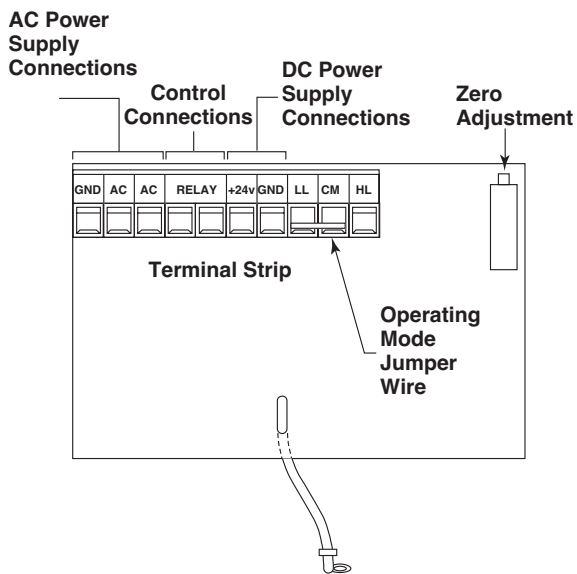

Figure 4
4. Connect power leads to applicable AC or DC terminals as marked. Refer to Figure 4.
5. Connect control circuit leads to relay terminals. Refer to Figure 4. Make sure the load to be controlled is within the relay's rated capacity.
8. Select operating mode. Refer to Section 1.8.1, *Operating Mode Selection* on page 5 for detailed information. Make sure that the operating mode jumper wire is in the correct position for your selection. Refer to Figure 4.
- a. With no material on probe, turn zero adjustment control fully counterclockwise 20 turns. Refer to Figure 4 on page 4.
- a. With material covering the probe, turn zero adjustment control fully clockwise 20 turns. Refer to Figure 4 on page 4.